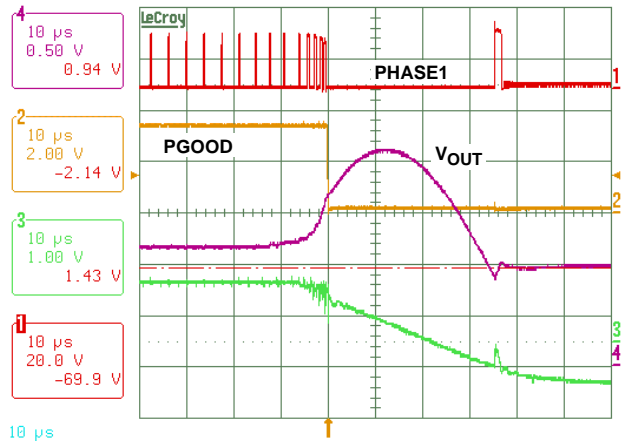

FIGURE 25. 1.7V OVERVOLTAGE PROTECTION SHOWS OUTPUT VOLTAGE PULLED LOW TO 0.9V AND PWM THREE-STATE
2. The second level of overvoltage protection behaves differently (see Figure 25). If the output exceeds 1.7V, an OV fault is immediately declared, PGOOD is latched low and the low-side MOSFETs are turned on. The low-side MOSFETs will remain on until the output voltage is pulled down below about 0.85V, at which time all MOSFETs are turned off. If the output again rises above 1.7V, the protection process is repeated. This offers the maximum amount of protection against a shorted high-side MOSFET while preventing output ringing below ground. The 1.7V OV is not reset with VR\_ON, but requires that VDD be lowered to reset. The 1.7V OV detector is active at all times that the controller is enabled including after one of the other faults occurs so that the processor is protected against high-side MOSFET leakage while the MOSFETs are commanded off.